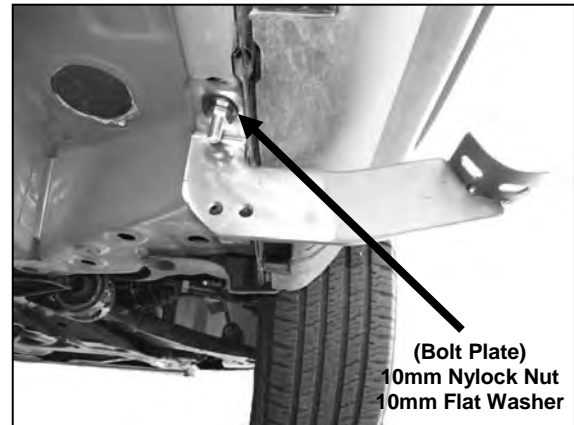

Figure 2
- Determine passenger and driver side front Mounting Brackets. Hang passenger side front Mounting Bracket through Bolt Plate and into position by partially threading (1) 10mm Nylock Nut and (1) 10mm Flat Washer into previously inserted Bolt Plate (**Figure 2**).